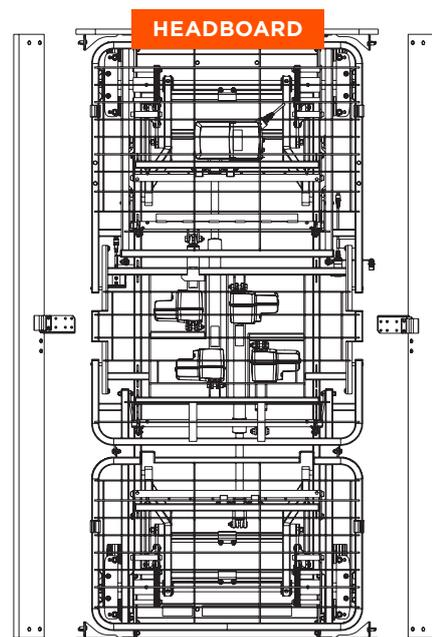
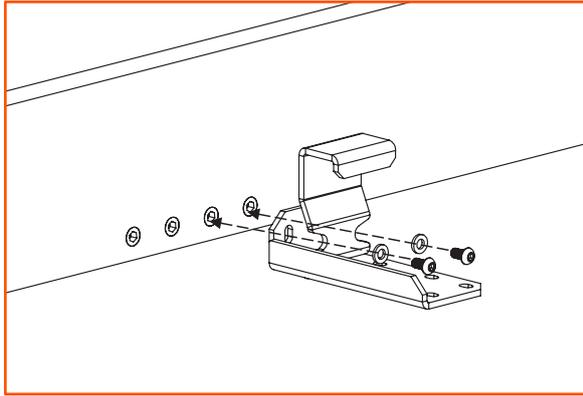

Figure 9.4
Figure 9.5
- Fit the assembled middle bracket to the side panel. There are two sets of fixing holes on each side panel, depending which side of the bed the side panel is fitted, as shown in Figure 9.4. Fit the bracket to the set of holes closest to the headboard using the M6 x 20 bolts and M6 washers as shown in Figure 9.5. Tighten the bolts using the 4mm Allen key.